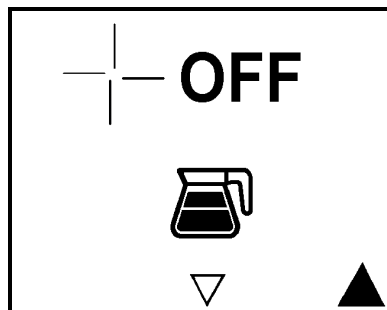

Fig. 14
1. Select program "switching mixer on or off". Figure 14 appears in the display.